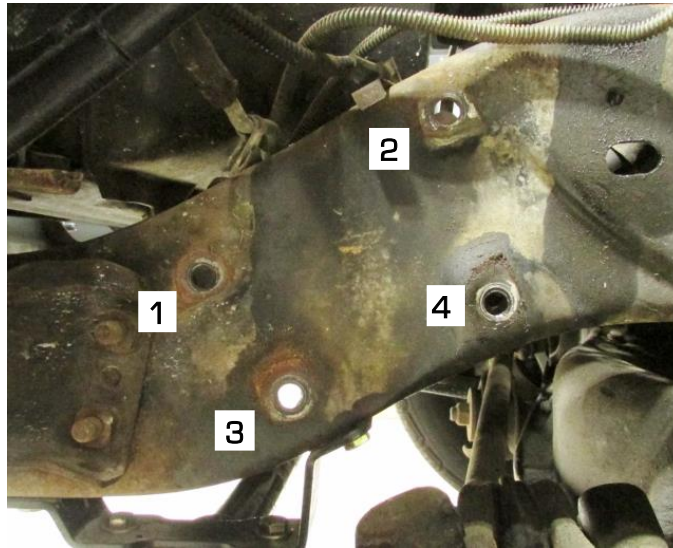

Figure 4 - Remove Steering Gear
5. With the original steering gear properly supported, remove the four bolts that attach the gear to the frame rail. These bolts will be reused for installation of the DSE steering gear (Figure 4).